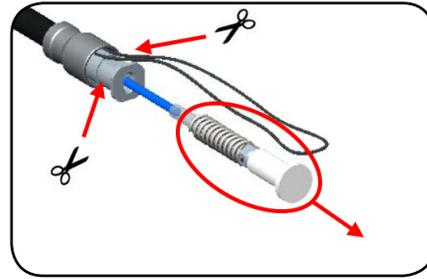

Figure 1
**Step 1:** Remove protective dust cap and cut the pull string loop close to crimp (**Figure 1**).